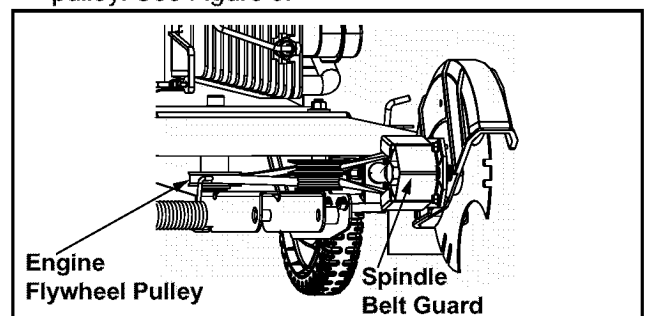

Figure 8
- If it hasn't already freed itself, with your other hand, carefully reach under the rear of the unit and remove the belt from around the engine flywheel pulley. See Figure 8.